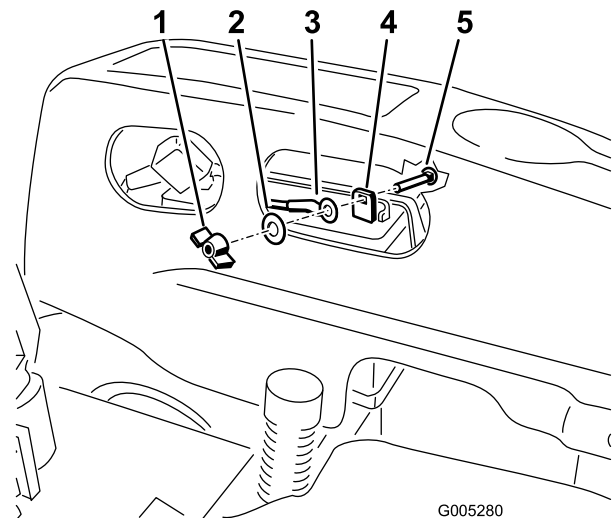

Figure 5
2. Remove the fasteners on the negative battery post and use them to secure the negative battery cable to the negative battery post (Figure 5).